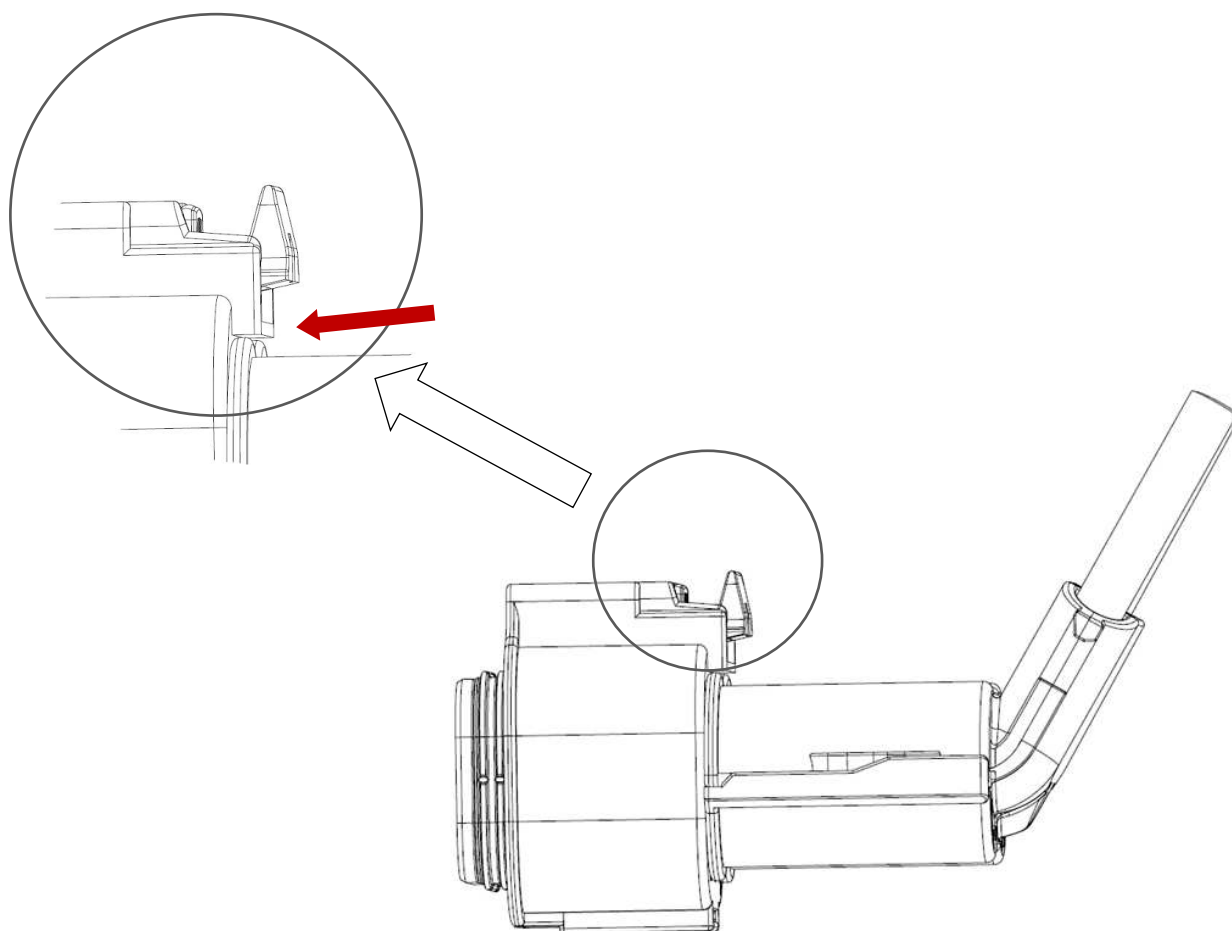

Fig.57
**Check correct position of the Covers. The final position should look like shown in Fig.57**